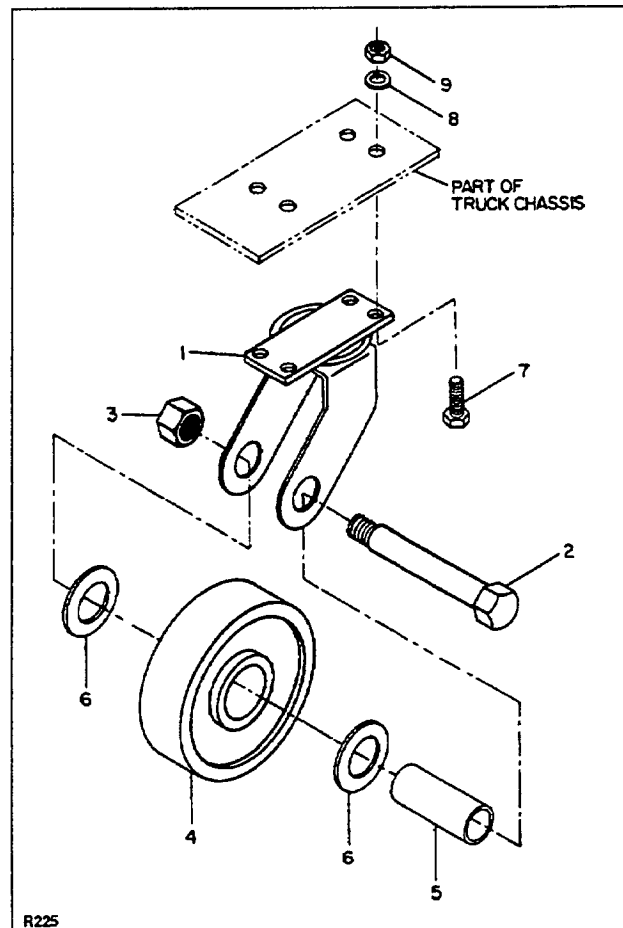

Figure 7-3. Caster Wheel
5. Remove the nut (3, Figure 7-3) and caster wheel axle (2) to remove the caster wheel, bushing, and spacers (4 through 6).
6. Remove the axle bushing (5) from wheel and bearing assembly.
9. Reassemble the caster wheel assembly, bushing, and spacers (4 through 6) with caster axle (2) and nut (3).